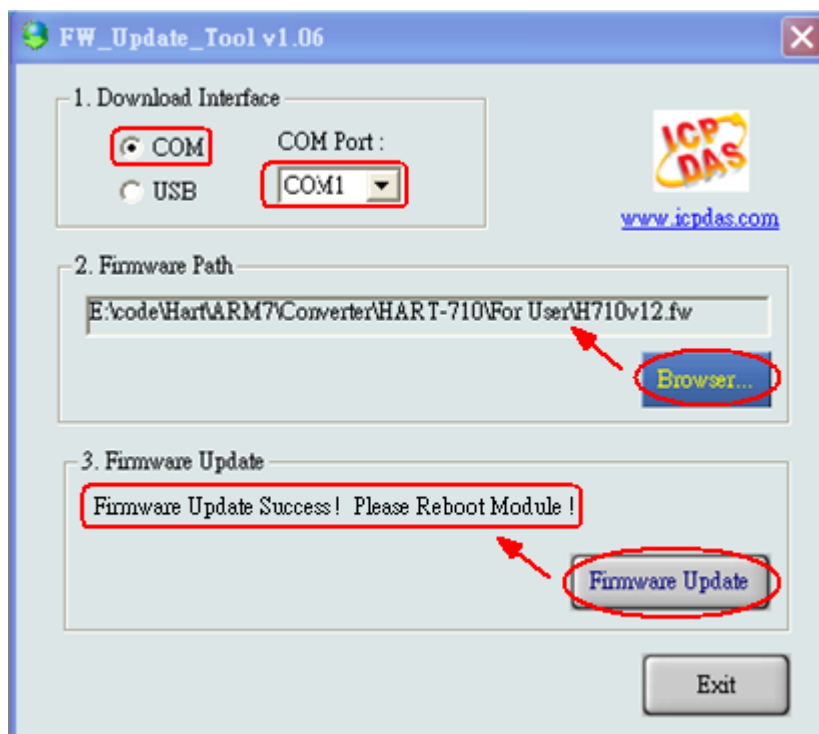

Figure 4-3 “FW_Update_Tool”
- (4) Run “FW_Update_Tool” like Figure 4-3 (Download from : ftp://ftp.icpdas.com/pub/cd/fieldbus_cd/hart/gateway/utilities/fw_tool/).